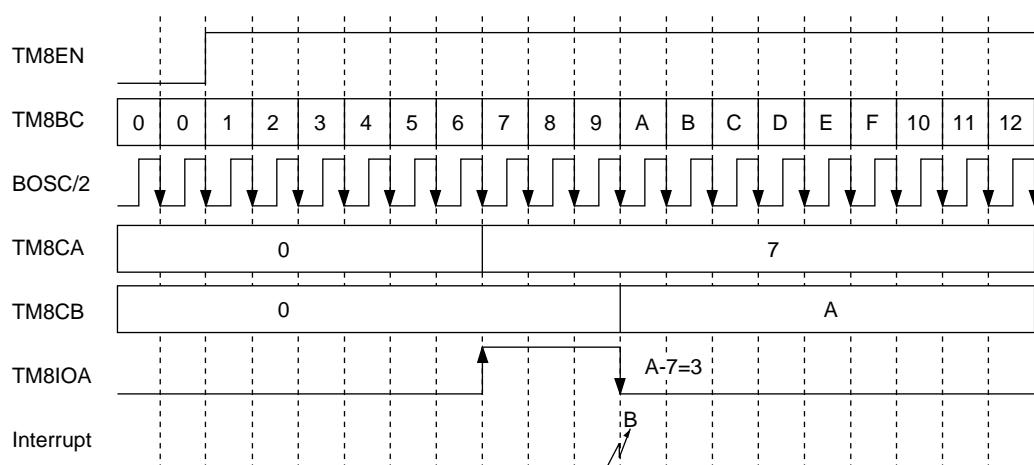

Figure 4-4-10 One-phase Capture Input Timing (16-bit Timer)
- (2) Set TM8NLD and TM8EN of TM8MD to 1 and 0 respectively. This enables TM8BC and RS.F.F.
- (3) Set TM8NLD and TM8EN to 1. This starts the timer. Counting begins at the start of the next cycle.
- (4) Enable interrupts after clearing all prior interrupt requests. To do this, set IQ0LV[2:0] of the external interrupt 0 control register (IQ0ICH) to the interrupt level 0 to 6), TM8BIR of the timer 8 capture B interrupt control register (TM8BICL) to 0, and TM8BIE of the timer 8 capture B interrupt control register (TM8BICH) to 1. Thereafter, a timer 8 capture B interrupt occurs when the capture to the TM8CB register is generated on the rising edge of TM8IOA pin.
- (5) Execute the interrupt service routine. The interrupt service routine determines the interrupt group and factor, and clears TM8BIR flag.
- (6) Calculate the signal width. Save the TM8CA value and the TM8CB value to the data registers (DR0 to DR3), and subtract the TM8CA value from the TM8CB value. The width will be calculated correctly even if the TM8CA value is greater than the TM8CB value by setting TM8LP to 0. Figure 4-4-10 shows 000A-0007=0003, or 3 cycles.
Timer 8 functions as a one-phase capture input. Select up counting. Timer 8 does not operate stably when BOSC stops (in STOP mode). All external inputs are sampled on BOSC (synchronized with BOSC) when the external clock operates. TM8CA is captured on the rising edge of TM8IOA, and TM8CB is captured on the falling edge of TM8IOA. A capture B interrupt is generated on the TM8CB capture, and the TM8CA and TM8CB values are read during the interrupt service routine. Figure 4-4-10 shows $000A-0007=0003$, or 3 cycles. The same result is obtained even if the TM8CA value is greater than the TM8CB value. For example, $0003-FFFE=0005$. The signal width is calculated by ignoring flags.